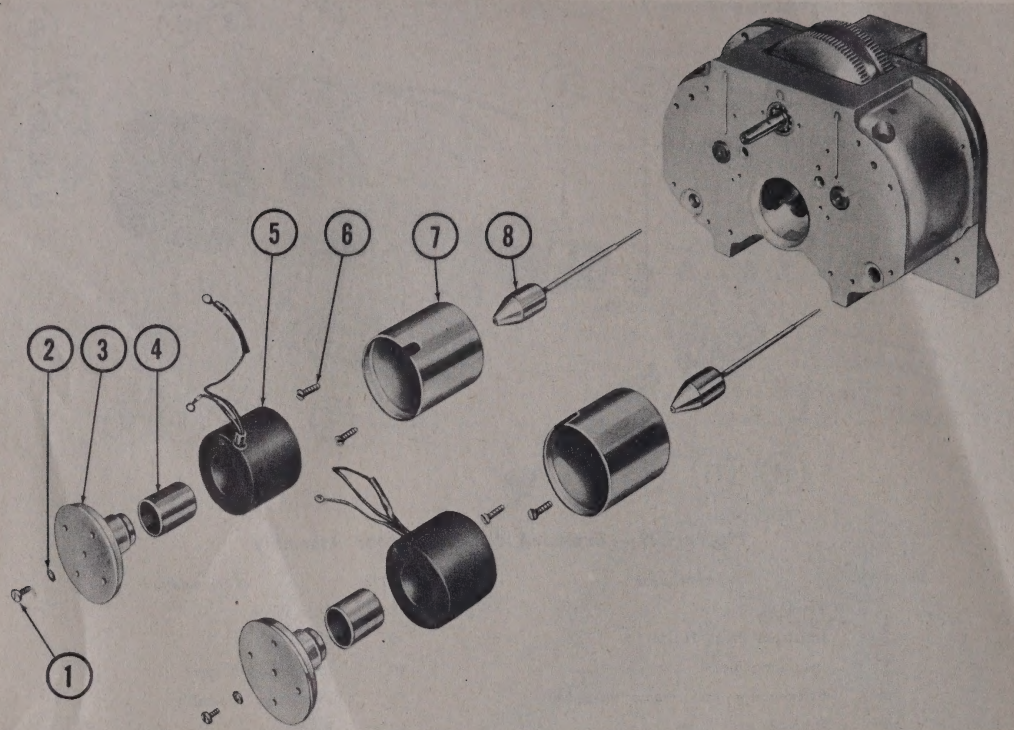

Figure 330 — Exploded View of Brake Solenoid Assemblies
(8) REMOVE THE BRAKE SOLENOID HOUSING AND PLUNGER ASSEMBLIES.
(a) (See figure 330.)—Remove the binding-head screws (1) and washers (2) which attach the
(d) (See figure 330.)—Remove the two brake solenoid windings (5) from the housings (7).